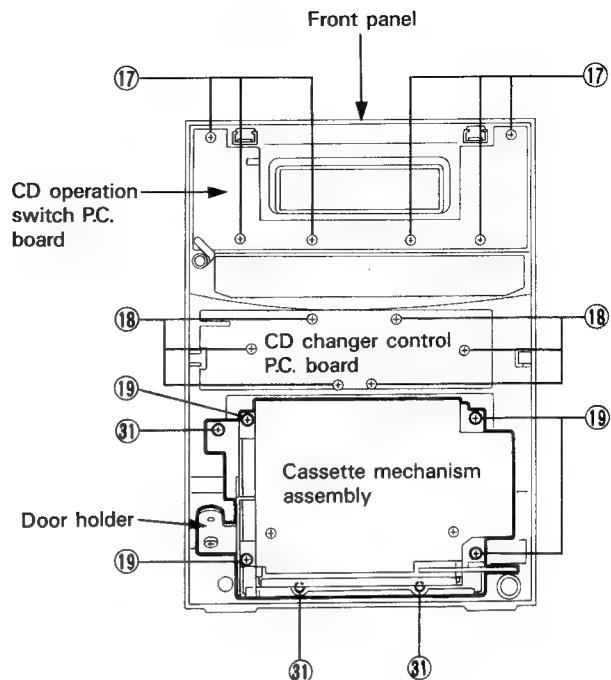
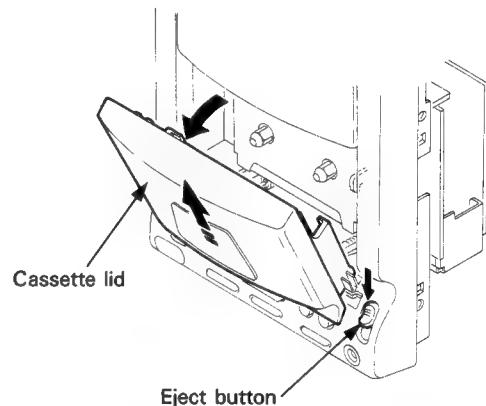

Fig. 7-16
Fig. 7-17
■ **Method of removing the CD operation switch P.C. board, CD changer control switch P.C. board and so forth (Refer to Fig. 7-16).**
7. From the front panel assembly, remove the six screws ⑯ retaining the CD operation switch P.C. board.
8. Remove the six screws ⑯ retaining the CD changer control switch P.C. board.
■ **Method of removing the cassette mechanism assembly and door holder assembly (Refer to Fig. 7-16).**
2. Remove the four screws ⑯ retaining the cassette mechanism and door holder, and dismount these mechanism and assembly from the front panel assembly.
3. From the front panel, remove the three screws ⑯ retaining the door holder assembly.
■ **Method of removing the tape deck operation switch P.C. board (Refer to Figs. 7-17 and 7-18)**
2. By pressing the [EJECT] button, open the cassette door (Refer to Fig. 7-17).